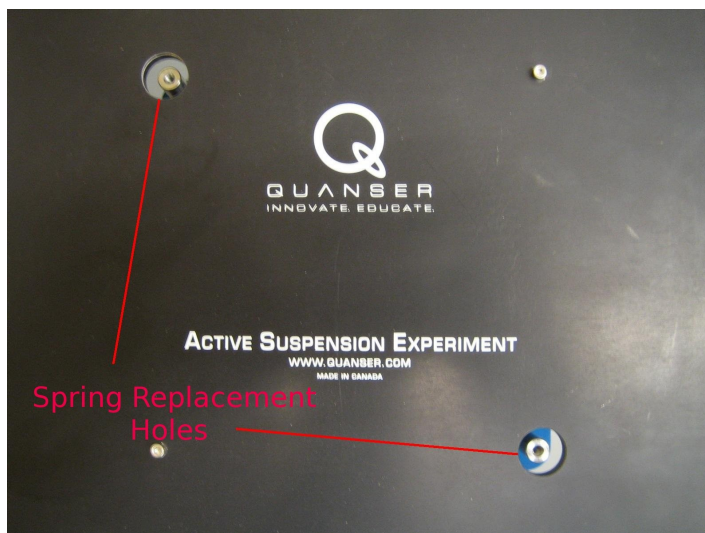

Figure 10: Active Suspension Plant. Top View.
1. Unscrew the two screws on the top cover plate (component #23) as shown in Figure 10. The two holes in the top cover are designed for replacing the springs. Take out the rings from the two holes.
1. As shown in Figure 10, there are four screw holes on the top cover plate (Component #23). Align each hole near the center of their corresponding shaft (Component #20). Use an Allen key and the four screws to tighten the screws and fasten the top cover to the plant structure.